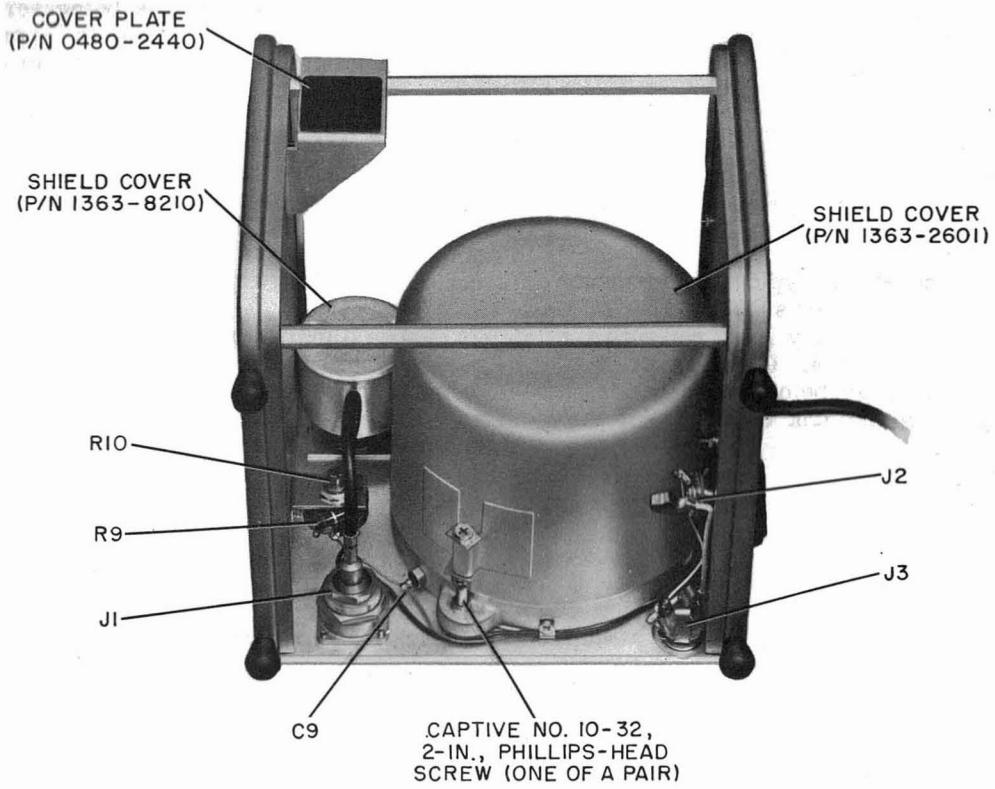

Figure 6-3. Interior bottom view with shield covers installed.
If the 1363 Oscillator performs outside of specification, as determined by use of paragraph 6.3, the procedures below can be used to isolate the trouble to a defective assembly or part. Suggestions for trouble analysis are given in Tables 6-2 and 6-3. The former is based on operating parameters, the latter on cold resistances. (Refer to Figures 6-3 and 6-4 and to the schematic diagram, Figure 6-6, at the end of the book.) Instructions for adjustment and repair are given in subsequent paragraphs of Section 6.
e. Connect a 0-100 mA VOM at the MOD jack, and apply power using a 1264 or 1267 Power Supply. (If using a 1264, set the function selector to CW.) With a 50- Ω load connector and the output-LEVEL control fully cw, tune to the frequency at which plate current is maximum, usually near 200 MHz, and adjust R10 with a screwdriver (refer to Figure 6-3)